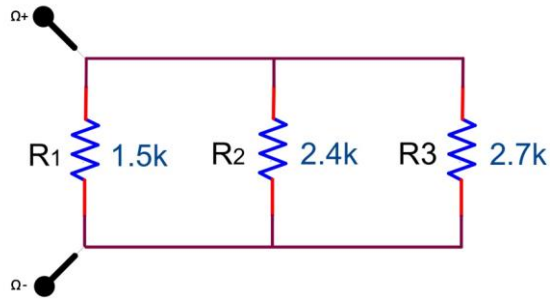

Figure 2.5
3. Measure R_1 , R_2 , and R_3 (independently and record the readings. Construct the circuit in Figure 2.5 and measure R_T . Record the value.